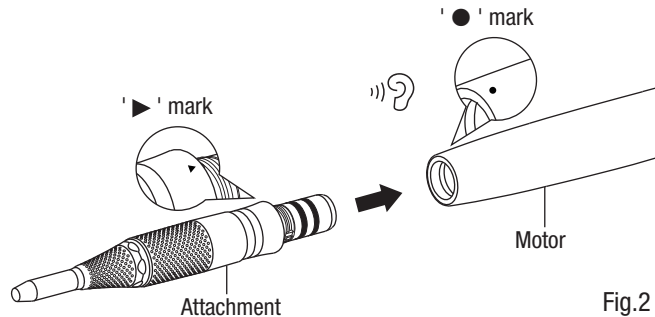

Fig.2
- 2 Align the '▶' mark of the attachment and '●' mark of the motor, then push the attachment straight in until it clicks to connect firmly (Fig.2).